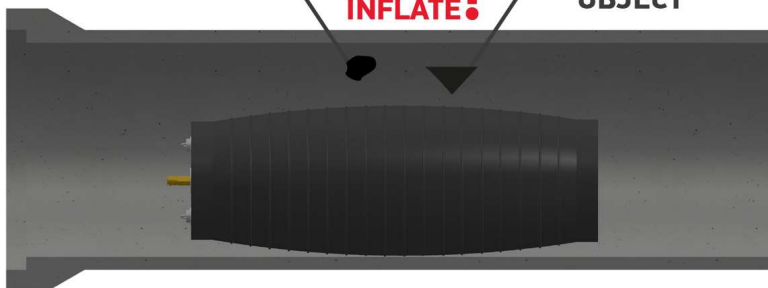

Figure 32
- Never inflate the pipe plug over or near sharp objects (Figure 32). Remove all sharp objects, stones and any foreign material from the pipe before inserting the pipe plug.